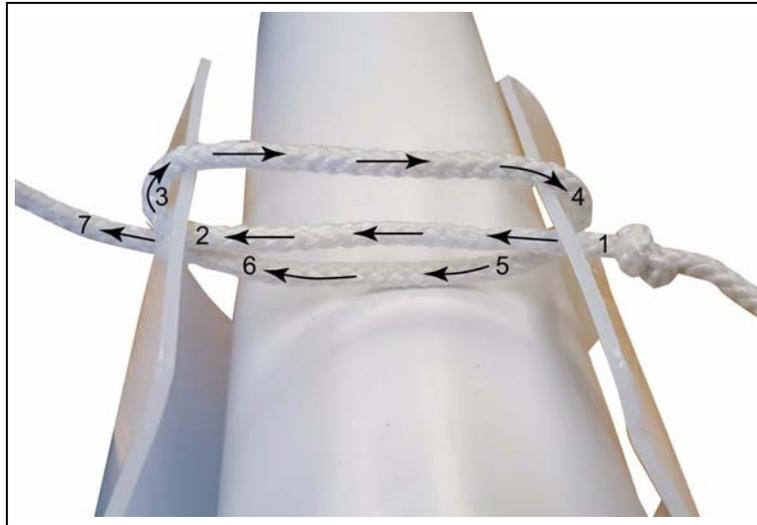

Figure 50
4. Loop the cord over and back through both holes again. (See Figure 50.)